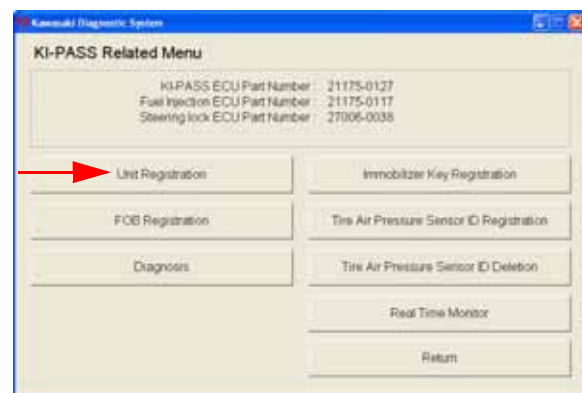

Fig. 5-48 KI-PASS Related Menu
- o Select **Unit Registration** on the KI-PASS Related Menu. (Fig. 5-48).